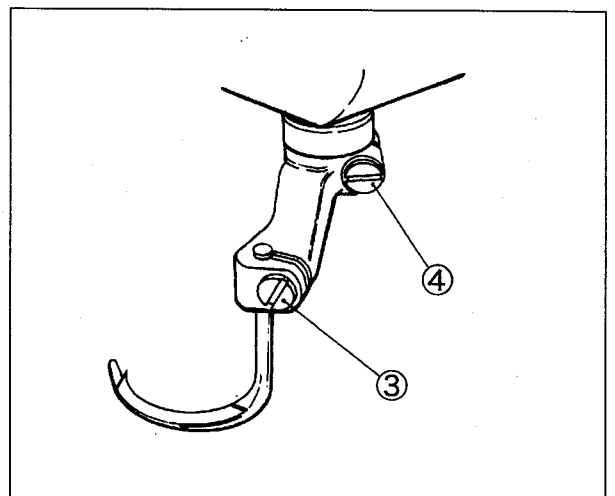

Fig. 49
- (1) Loosen the screws ③ and ④ of the spreader holder. (Fig. 49)